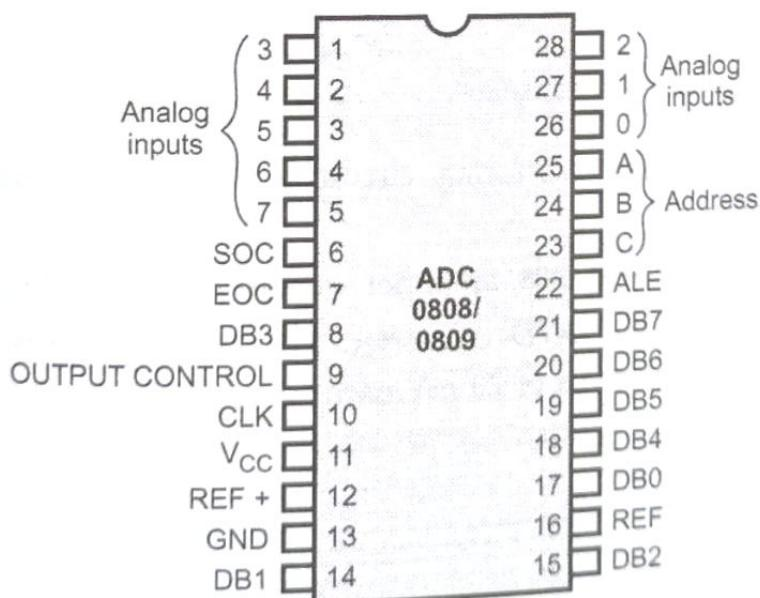

Fig. 3.6.1 Pin diagram of 0808/0809
- Fig. 3.6.1 shows pin diagram of 0808/0809 ADC.